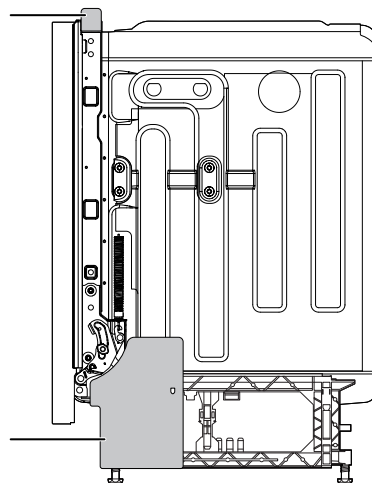

Figure: 4
- Tuck the lower ends of the side shields under the dishwasher. (See figures 4 and 5)